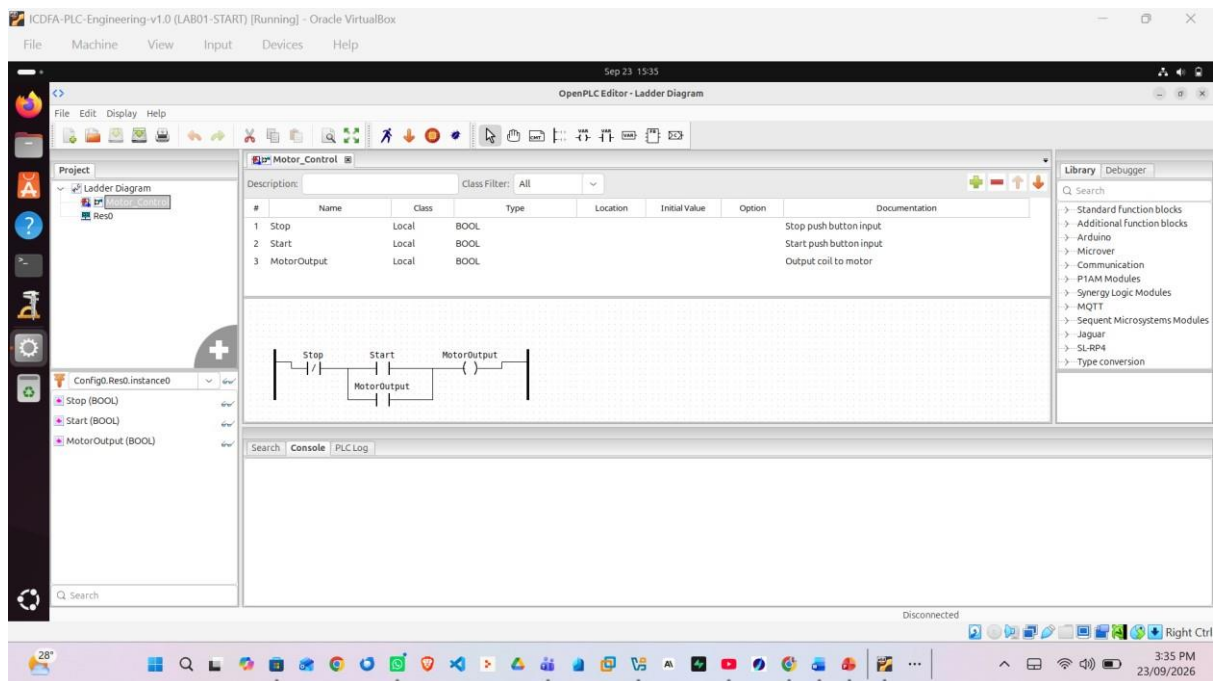

Figure 5: OpenPLC Editor launched.
- Figure 5 shows OpenPLC Editor opened inside the same VM.